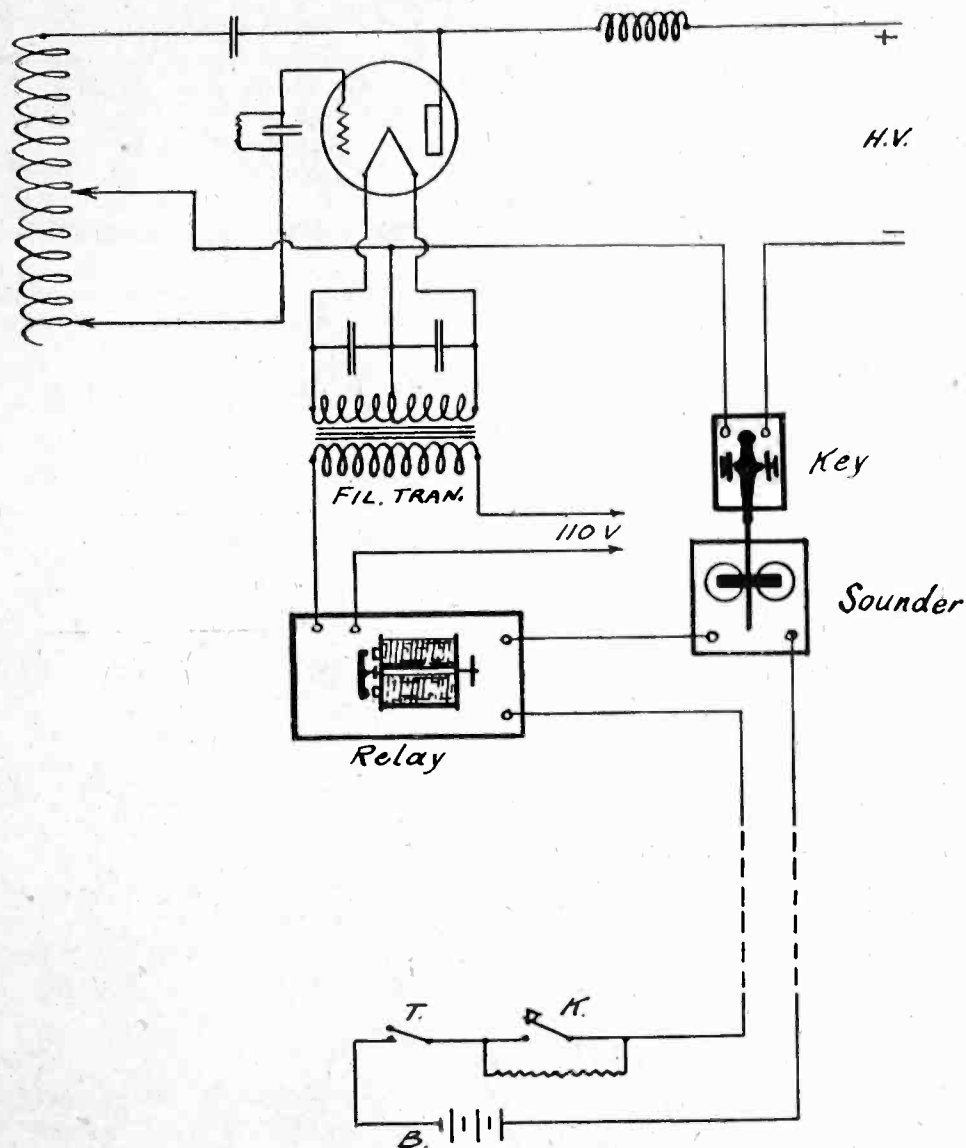

Fig. 1. Remote Control System at IBM
H. E. Nichols, IBM, was in this predicament but by means of the remote control device shown in Fig 1, he is now able to enjoy the advantages of an efficient radiating system while sitting at home by his warm fire-side.
With reference to Fig. 1, *R* is a telegraph relay which opens and closes the filament circuit of the vacuum tube. *S* is a telegraph sounder to which the transmitting key is fastened as shown in Fig. 2. The sounder operates the key, thereby opening and closing the plate or grid circuit—whichever is your favorite form of keying. *K* is the operating key at the house. This key is shunted by a resistance, the value depending on the sensitivity of the instruments used, but will probably be between 15 and 25 ohms. *T* is a switch and *B* is a 6-volt battery.